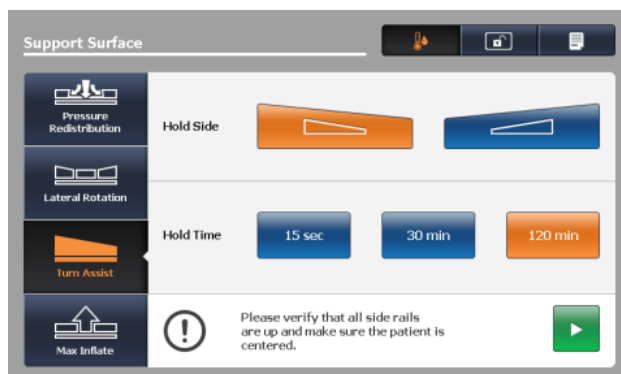

Figure 62: Turn assist screen
3. Tap **Turn Assist** (Figure 62 on page 72).